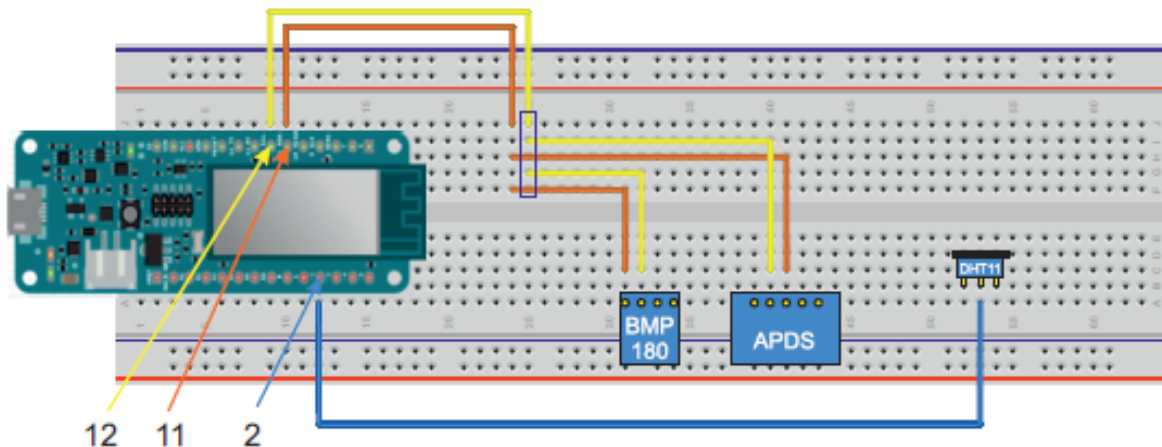

Figure 6. Connection step 3
2.1.3. Connection step 3 (Figure 6):